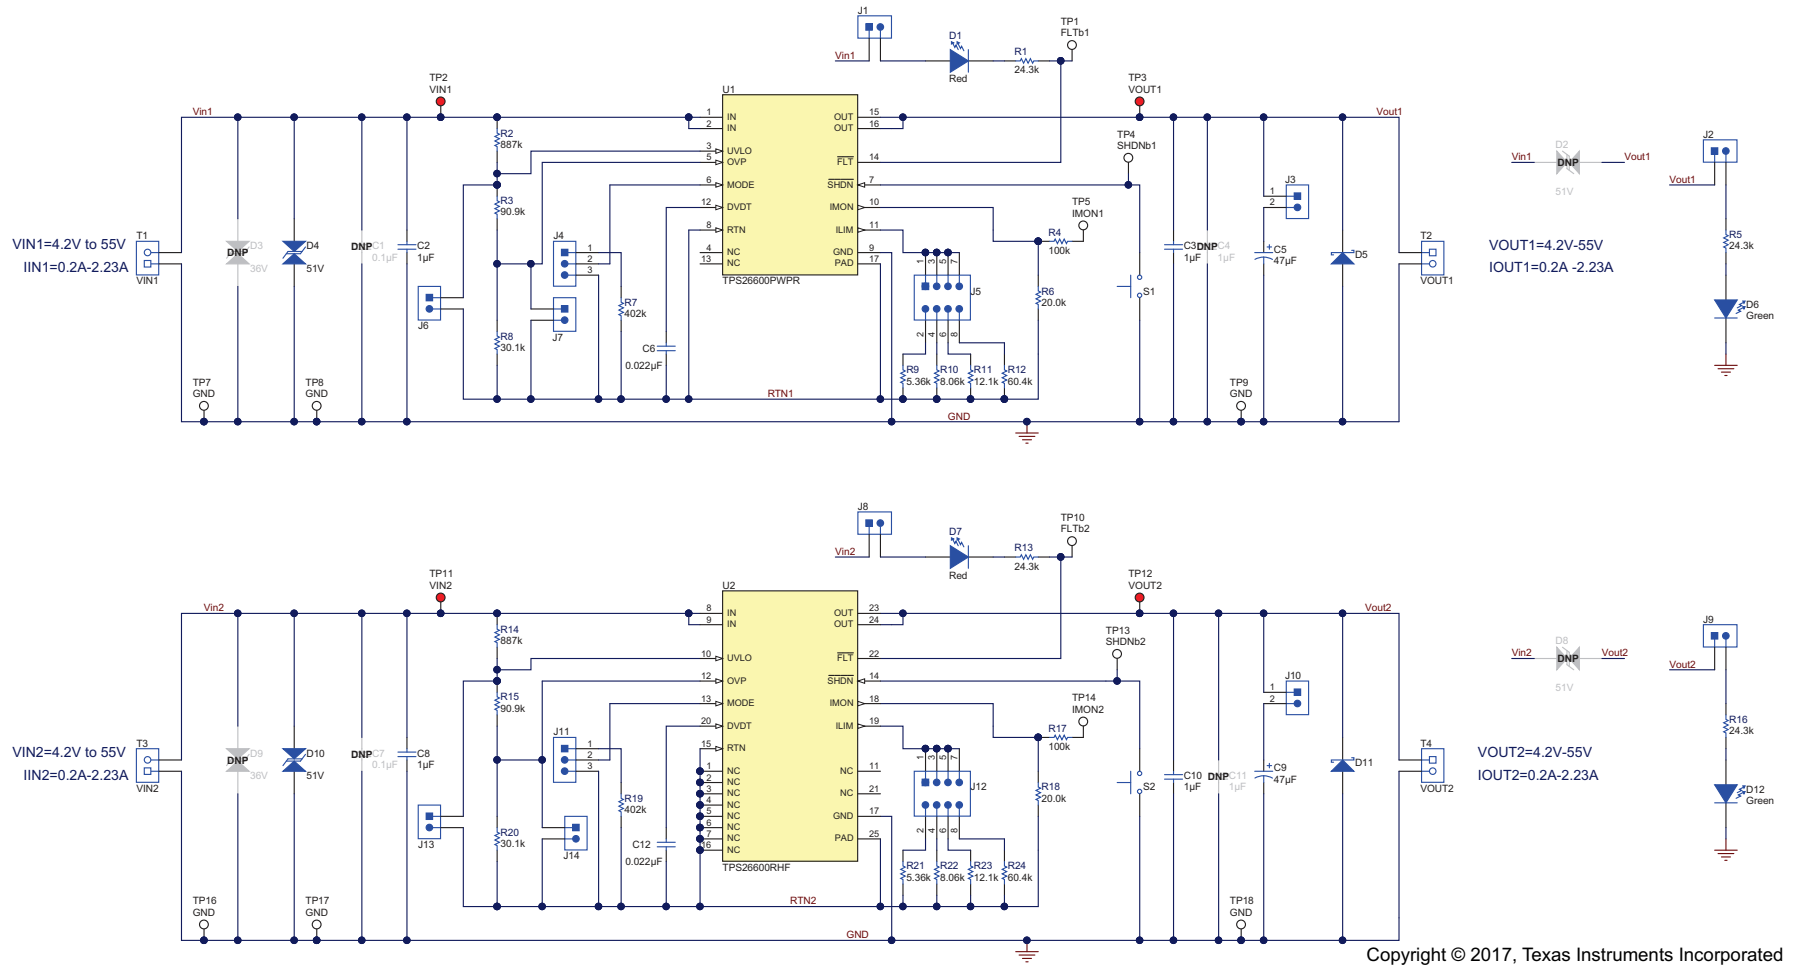
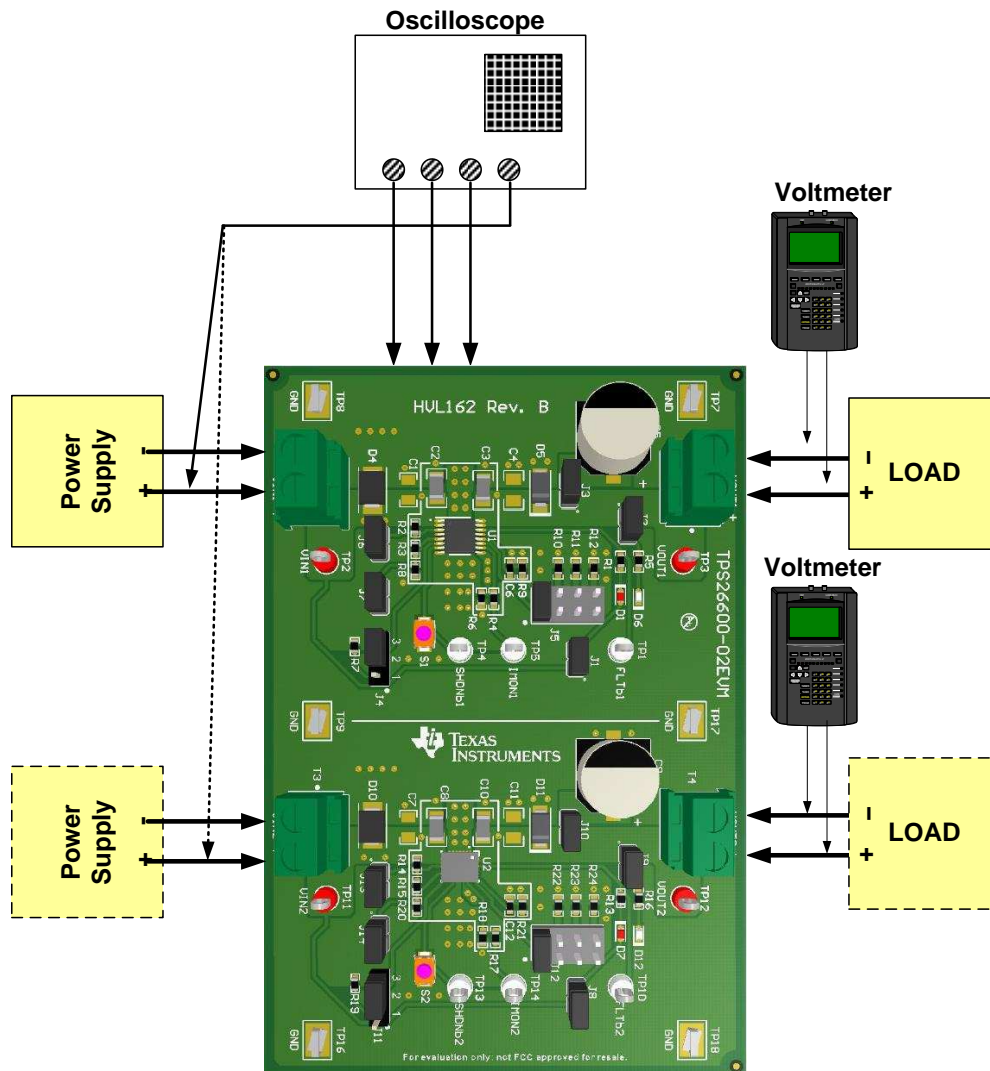

Figure 1. TPS26600-02EVM Schematic
Figure 2. EVM Test Setup
The TPS26600-02EVM enables full evaluation of the TPS2660x devices. The EVM supports HTSOP and QFN versions of the devices on two channels (CH1 and CH2, respectively). Input power is applied at T1 (CH1) and T3 (CH2) while T2 (CH1) and T4 (CH2) provide an output connection to the load. Refer to the schematic in Figure 1 and the test setup in Figure 2.
Figure 1 illustrates the EVM schematic.
Figure 2 shows the typical test setup for the TPS26600-02EVM. Connect T1/T3 to the power supply and T2/T4 to the load.
3. Disable the power supply, load and hook up the TPS26600-02EVM assembly as shown in Figure 2